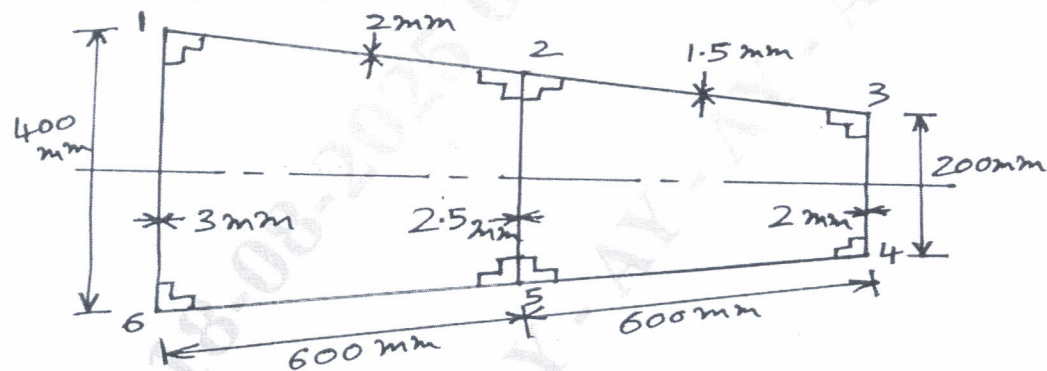

Fig. Q 8 (b)
b. Idealize the wing section shown in Fig. Q. 8 (b) into an arrangement of direct stress carrying booms and shear stress only carrying panels. Take cross sectional area of angle section as 300 mm^2 . Draw a neat sketch.